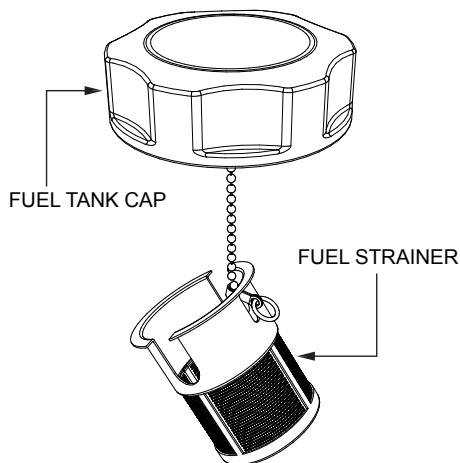

Figure 30. Fuel Strainer
3. Next, remove, inspect and clean the fuel strainer (Figure 30) with solvent.